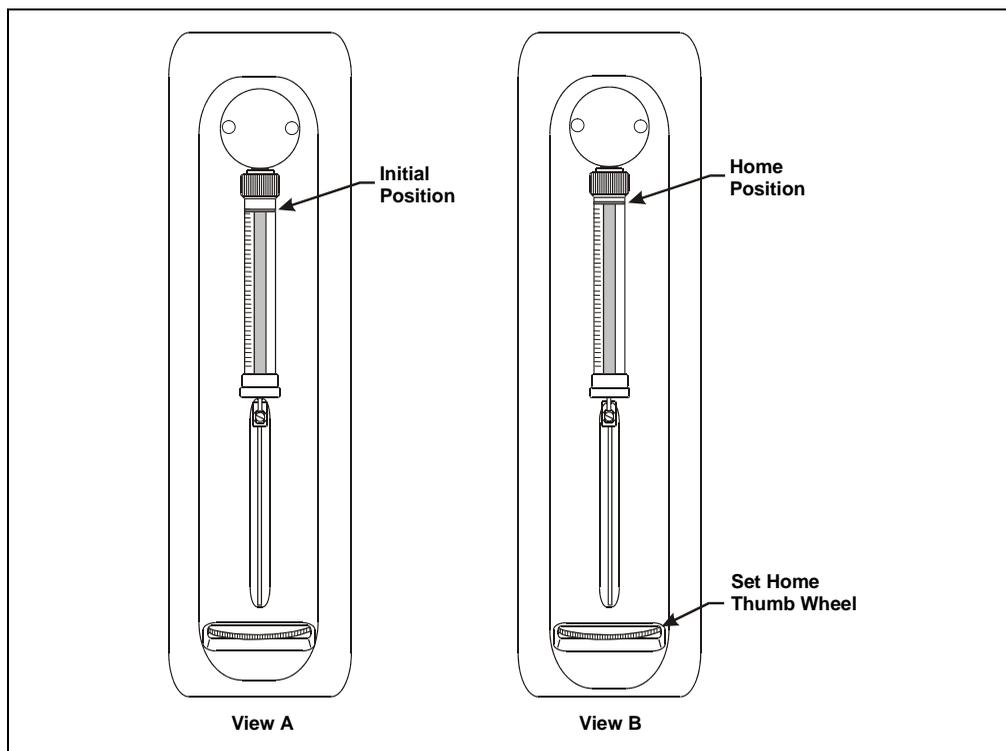

Figure 5-3. Setting the Syringe Home Position
5. The syringe plunger moves down a small amount. This is its initial position (see Figure 5-3, View A).
1. Move the set home thumb wheel to the left to move up the syringe plunger until it is approximately 1 to 2 mm from the top of the syringe (see Figure 5-3, View B).